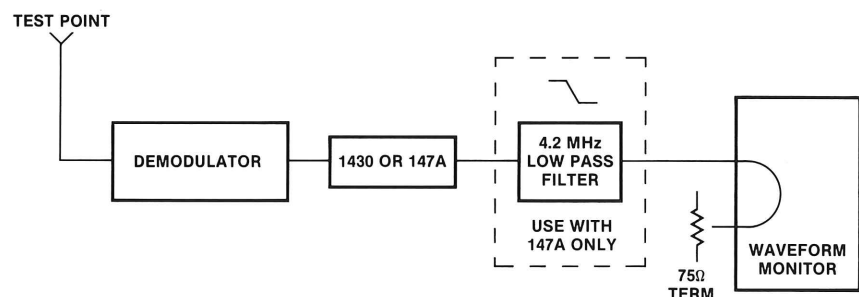

Figure 8-5. Equipment connection for alternative noise measurement.
1. Connect the equipment as illustrated in figure 8-5.